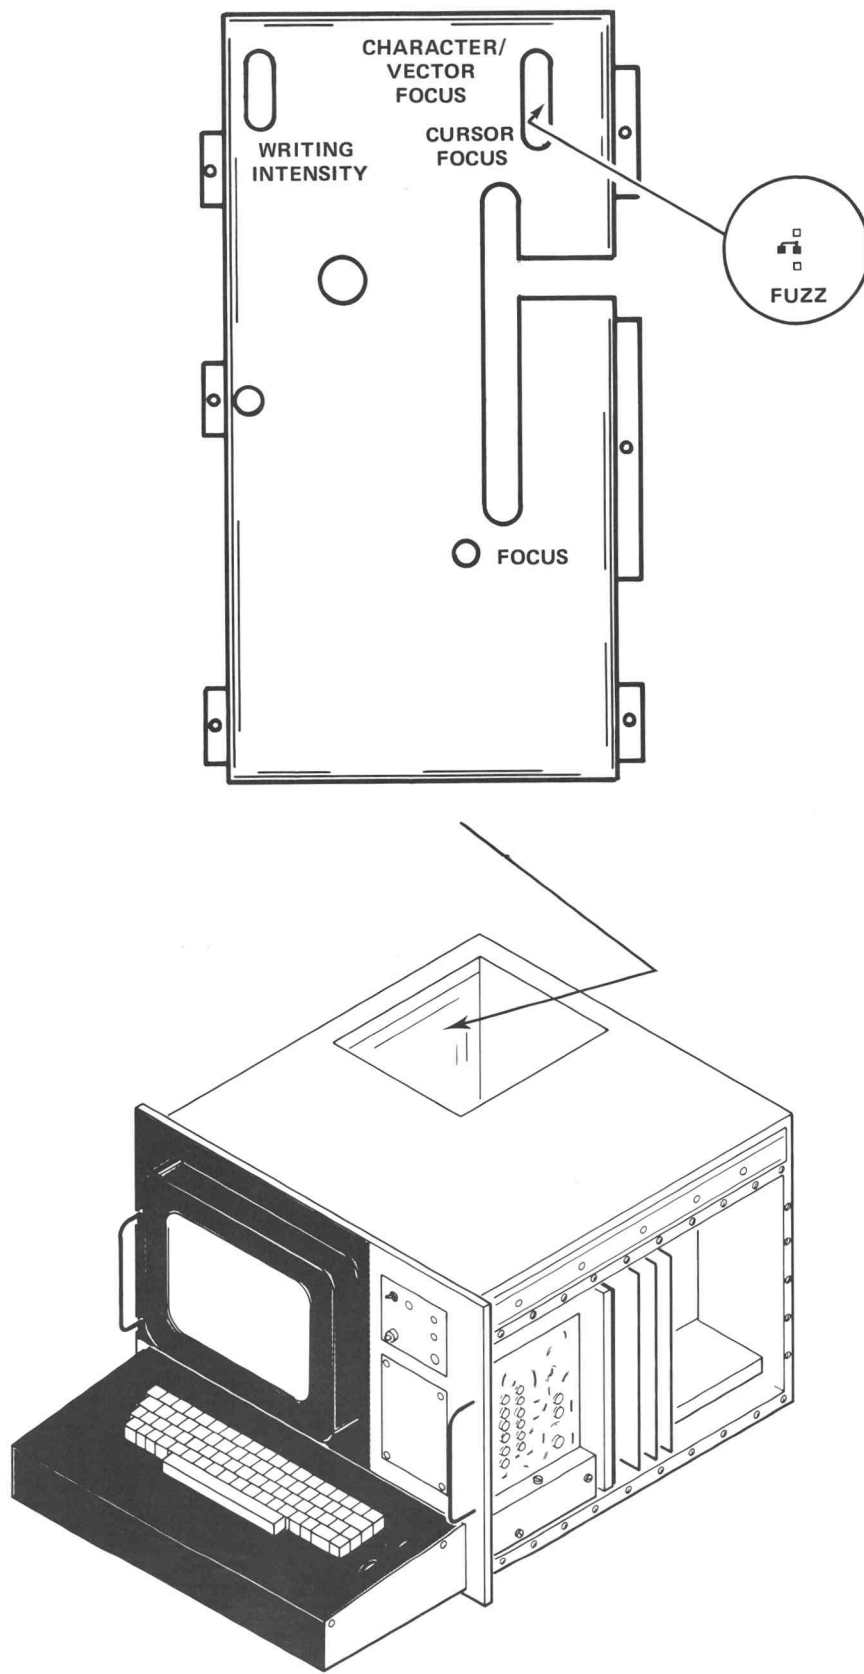

Fig. 4-13. Location of intensity and focus adjustments.
(3) Adjust NORM COLL in small increments, pressing PAGE and filling the display with 8s after each adjustment. Note the voltage at TP137 and the effect on display uniformity.
(4) Select the position which provides the brightest display consistent with optimum uniformity and record the voltage. The best position usually occurs at a voltage slightly more positive than that which provides maximum display brightness. A too-positive voltage will often cause obvious streaking or shadows around some characters. A too-negative voltage may result in oscillation which causes the screen to appear to blink rapidly. A too-negative voltage may also give a mottled effect to some of the stored characters. Settings below 90 V may also provide degraded displays at low temperatures, and should be avoided.
(5) Record the selected NORM COLL voltage on the tag attached to the CRT shield. If the CRT has not been replaced, do not obliterate the old voltage value; simply draw a line through it and write the new value alongside. The new voltage normally will not differ greatly from the old one. In the case of a replacement CRT, obliterate the old value and write in the new one. The new voltage normally will not differ greatly from that supplied with the CRT.
a. Check the position of the FUZZ strap on the High Voltage & Z Axis board. The strap is visible through the CHARACTER/VECTOR FOCUS slot in the High Voltage & Z Axis shield. (Fig. 4-13.) The strap should always be in the position shown.
d. While observing the Alpha cursor, adjusting WRITING INTENSITY (on the High Voltage & Z Axis board, Fig. 4-13) until the Alpha cursor intensity diminishes to where it can barely be seen.
c. Adjust FOCUS (alongside yoke housing—Fig. 4-13) in small increments, entering e after each adjustment, until optimum appearance is achieved. Press PAGE as necessary to keep the writing in the corner of the display.
(1) Place the LOCAL/LINE switch at LOCAL.
(2) Press PAGE.
(3) Using the Space Bar, LF, RETURN, and e keys, enter several e characters in each of the four corners. Then position the cursor to the center of the display area.
(4) Alternately enter the e character and adjust CHARACTER/VECTOR FOCUS (on High Voltage & Z Axis board in the display unit, Fig. 4-13) until center focus and corner focus are approximately the same.
- b. Adjust CURSOR FOCUS (on the High Voltage & Z Axis board, Fig. 4-13) for uniform focus of the lines.
- c. Move the cursor to various positions on the screen. If necessary, adjust CURSOR FOCUS (Fig. 4-13) to obtain the most uniform line focusing throughout the display.